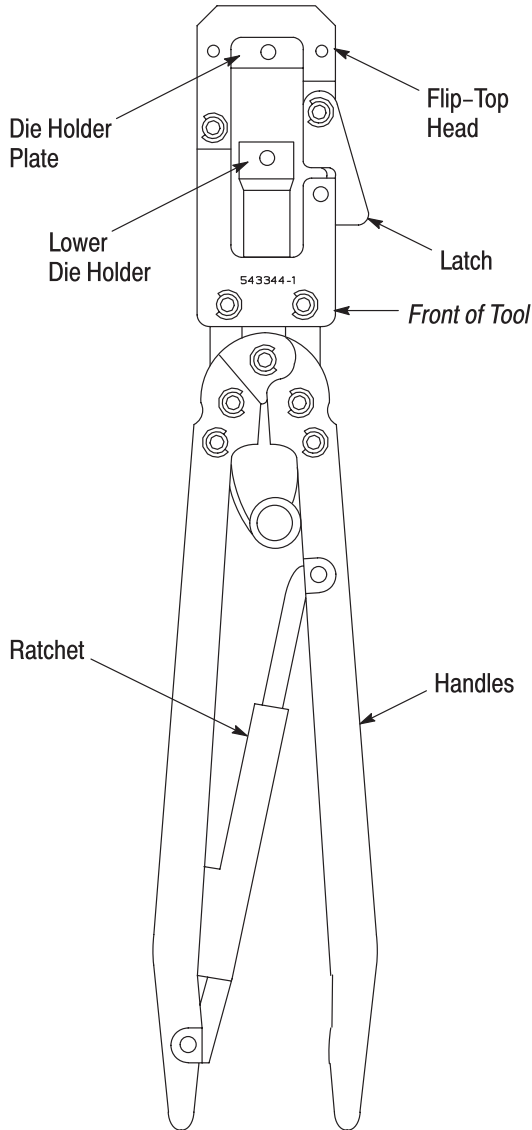

Figure 1
**2. DESCRIPTION** (Figure 1)
- Modified Figures 1 and 3